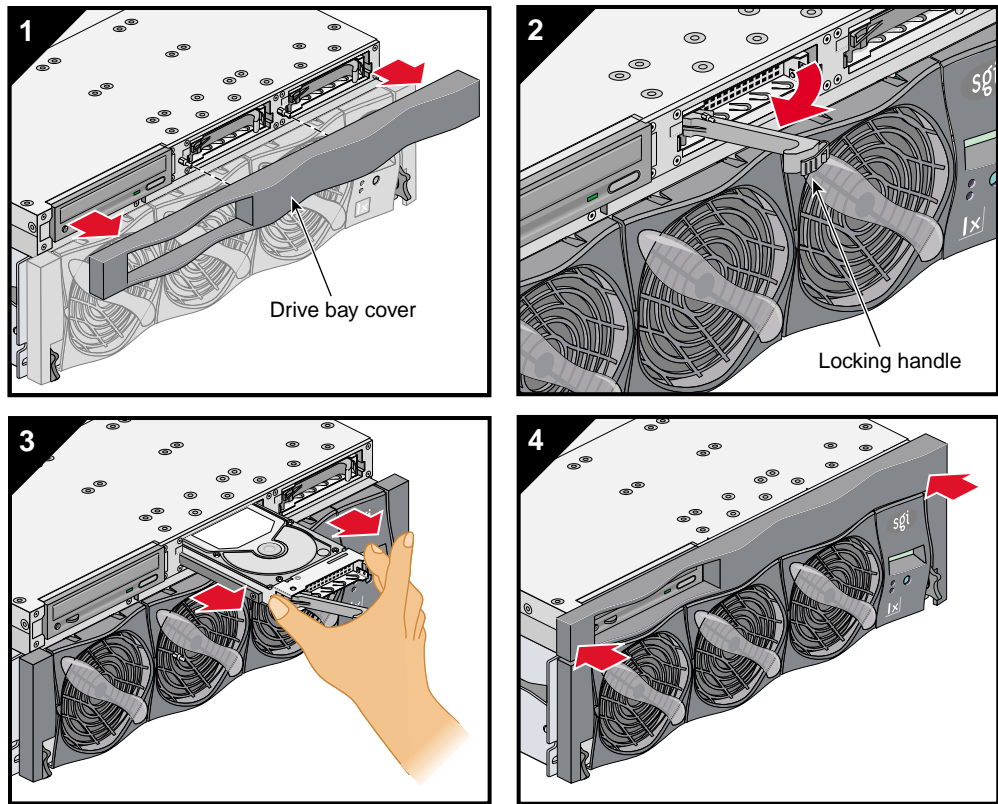

Figure 12-12 Removing a Disk Drive
To remove a disk drive, follow these steps (see Figure 12-12):
1. Remove the drive bay cover to access the two disk drive bays, as shown in panel 1 of Figure 12-12.